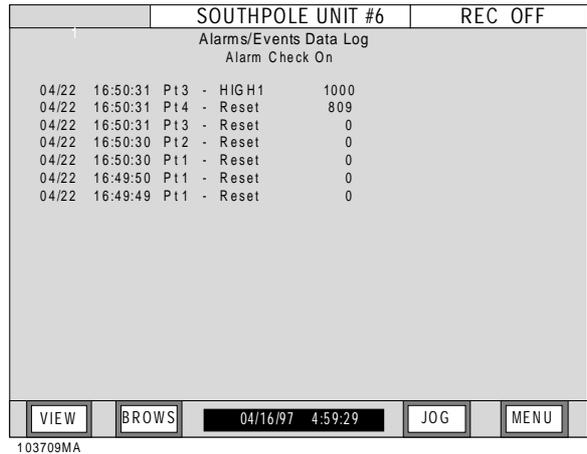
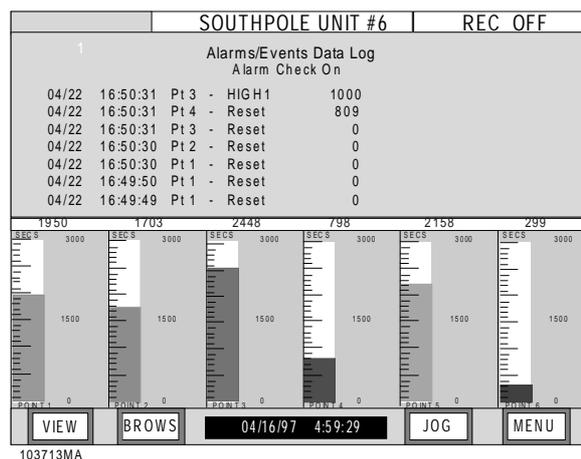

Figure 3-12 Alarms/Events Data Log View
Figure 3-16 Alarm/Events Data Log On Top and Vertical Bargraphs On Bottom View.
For external events via the digital inputs, you can define separate messages for each of the three inputs, one for input activated (Close) and one for input deactivated (Open). These event messages can be entered, up to a maximum of ten characters, in the "PROGram - Digital I/O - Event msgs" menu (Chapter 4). This message will appear in the log as - date - time - Switch number (Sw X) - Event message. Default event messages are CLOSE and OPEN as in the last line in the logger example above. Figure 3-12 shows a typical Alarms/Event Data Log.
9. Alarm/Events Data Log On Top and Vertical Bargraphs On Bottom View - The next view, when scrolling through the views, is a split screen showing all of the attributes of Figures 3-12 and 3-9. This view is shown in Figure 3-16.